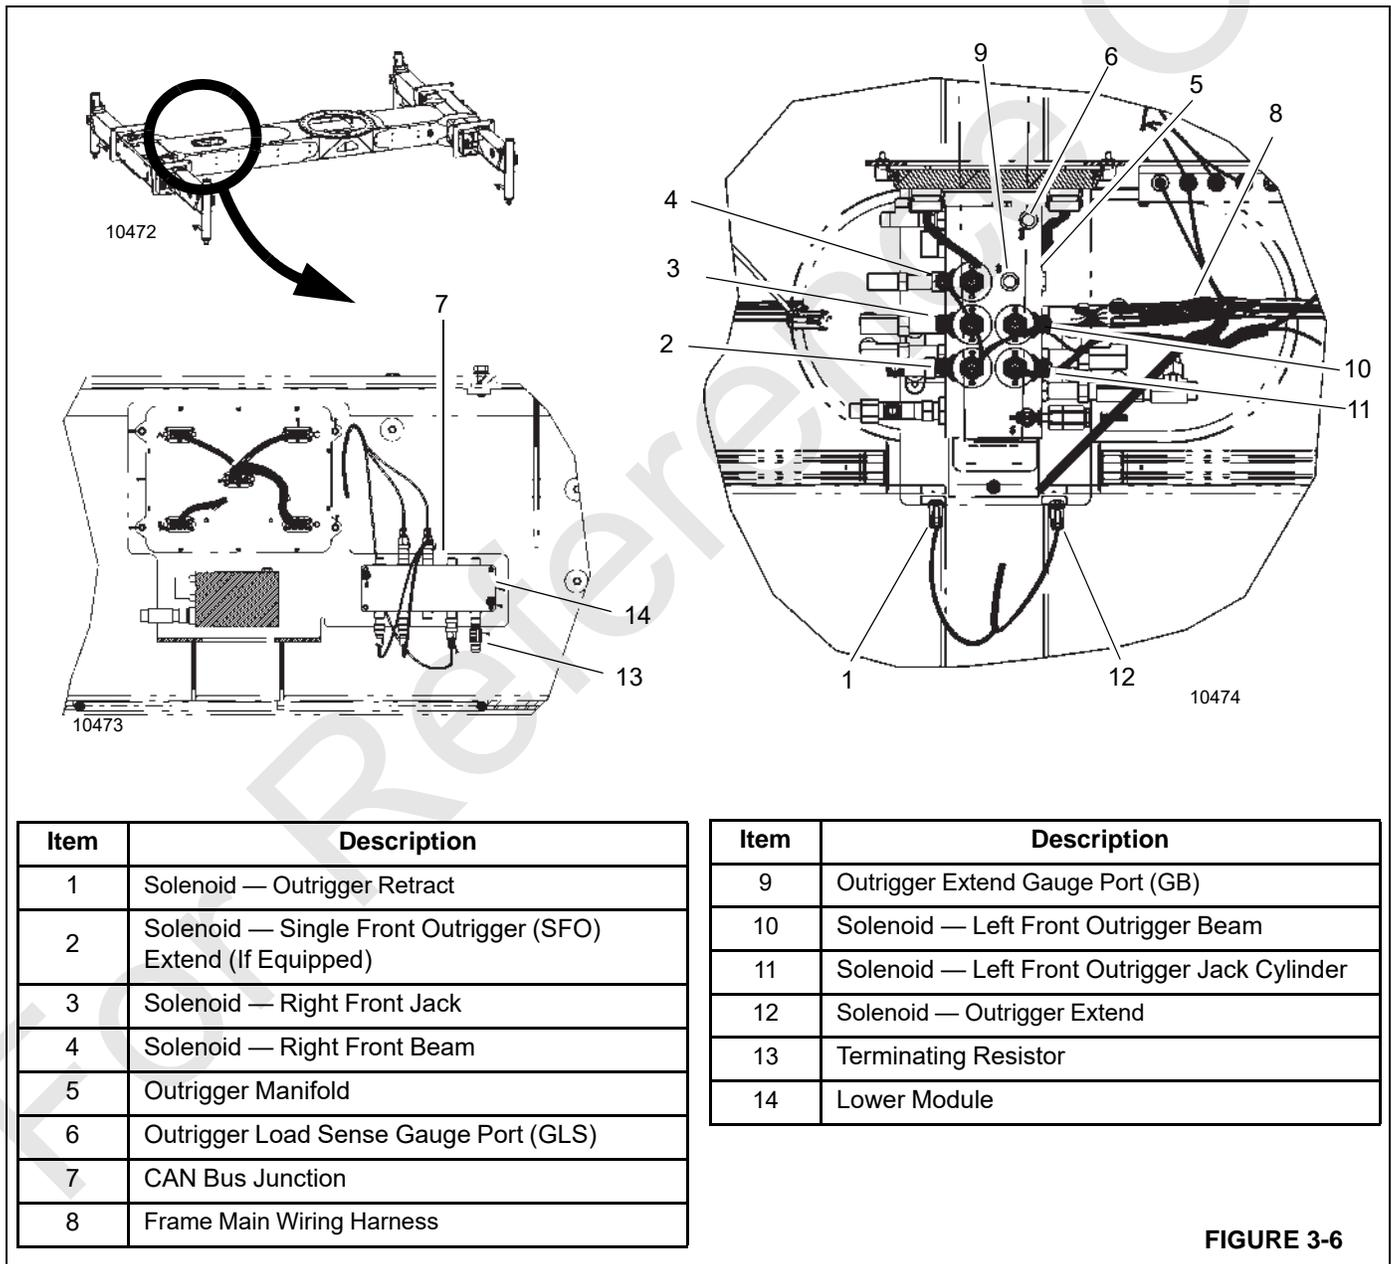
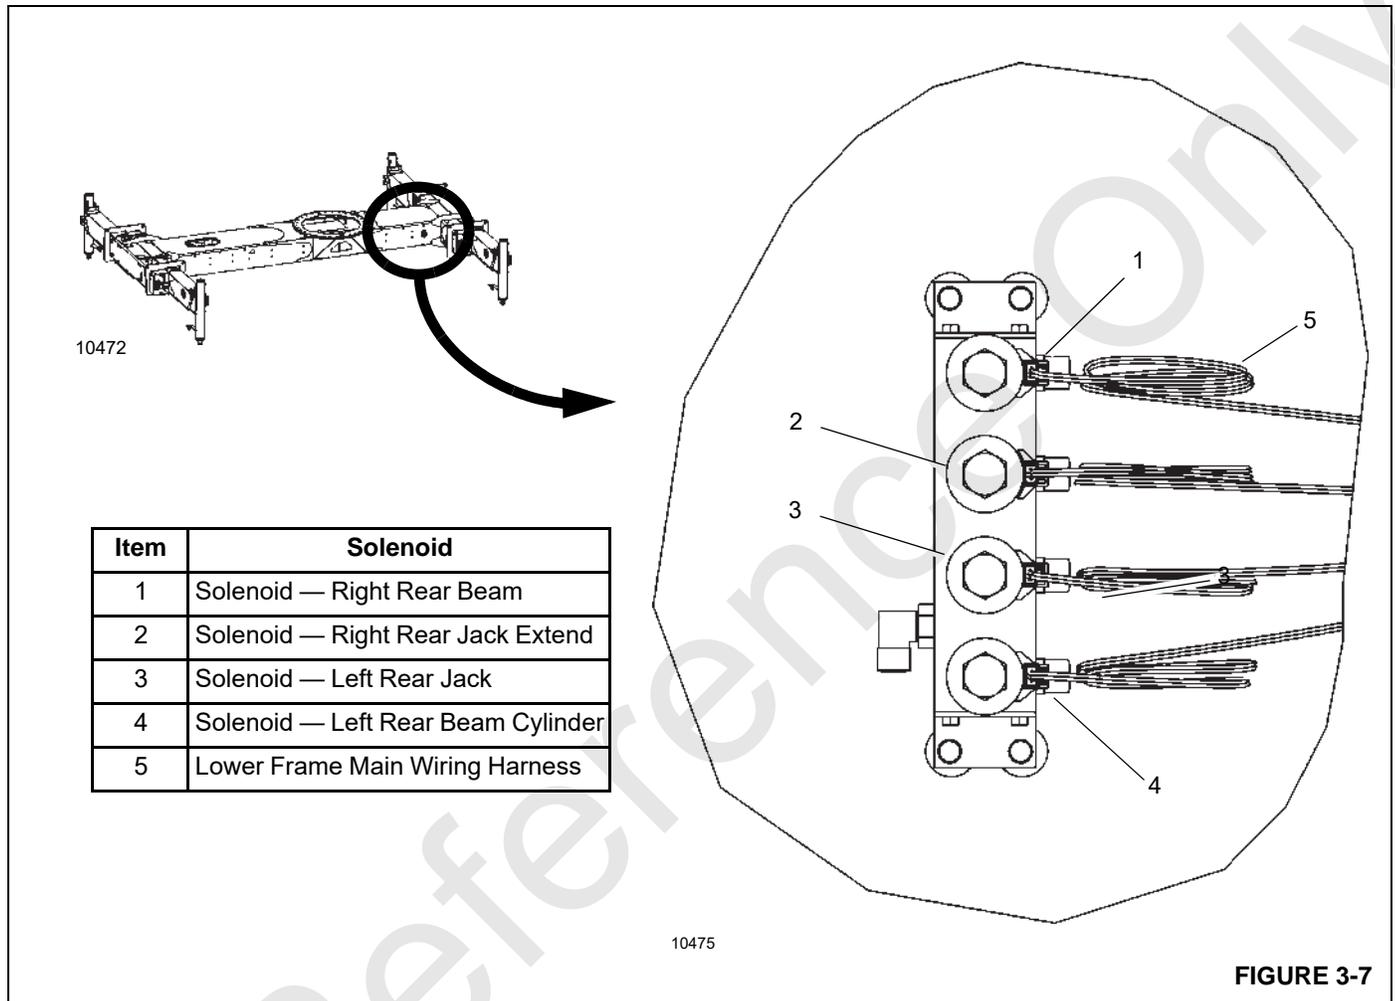

FIGURE 3-6
FIGURE 3-7
of the crane frame between the cab and front outrigger box (Figure 3-6).
The rear outrigger manifold is mounted to the bottom of the torsion box, between the crane bearing and the rear outrigger box (Figure 3-7).
NOTE: The front outrigger module (Figure 3-6 and Figure 3-7) are not serviceable; contact National Product Support with any service or repair questions about the module.
The solenoids on the front outrigger manifold (Figure 3-6) control the selection of the front outrigger components, the
- The single front outrigger (SFO) solenoid (2) extends or retracts the SFO when energized. Any time the retract switch on the outrigger control is depressed, the SFO is the first to retract.
- The extend solenoid (12) controls the extend functions for all outrigger components.
- The retract solenoid (1) controls the retract functions for all outrigger components.
- Solenoids (3), (4), and (10), (11) control the front outrigger components. See Figure 3-6 for solenoid identification.
The solenoids on the rear outrigger manifold control the rear outrigger functions. The lower module controls the rear solenoids. See Figure 3-7 for solenoid identification.